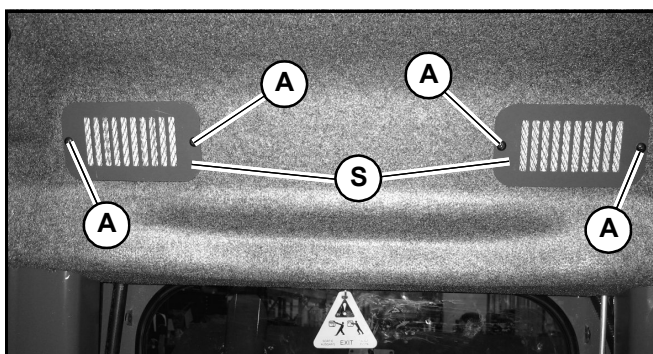

Fig. 121 – Cab Air Filters
2. Remove fasteners (A, Fig. 121) securing filter grilles (S) to the cab wall. Remove and discard the old filter elements.
3. Insert new filter elements and secure with grilles (S) and fasteners (A). Make sure the filter elements are completely seated in the openings and the grilles are firmly seated flush to the cab wall.